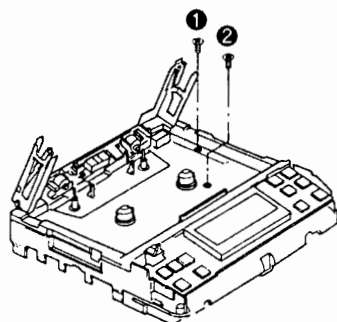

Fig. 1
2. Remove the 2 screws(❶, ❷).(Refer to Fig. 1.)